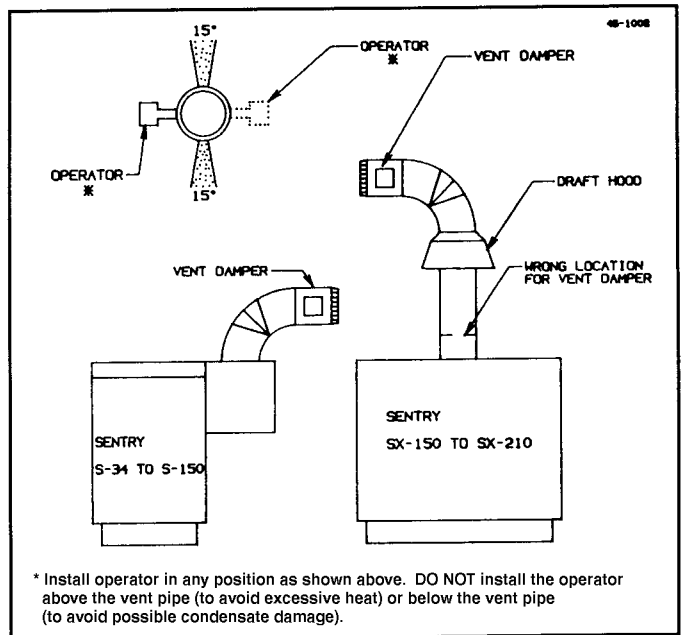

Figure 3. Horizontal or Sloping Installation of Vent Damper
* Vent damper may be installed horizontally on all models with use of a vent elbow. For more information, see Figure 3, page 5.